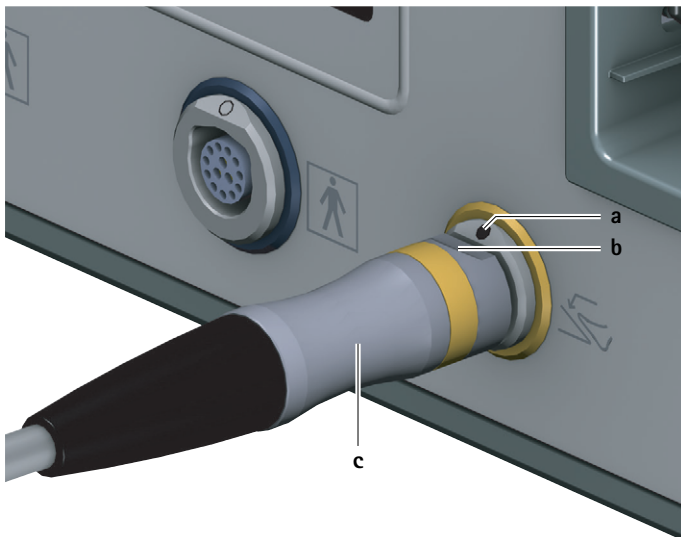

Fig. 2 Connecting the foot control
- Position connector of foot control **c** so that marking **b** on the connector is aligned with marking **a** on the connection socket for foot control **6**, see Fig. 2.
- Unplug connector for foot control **c** from the connection socket for foot control **6**, see Fig. 2.